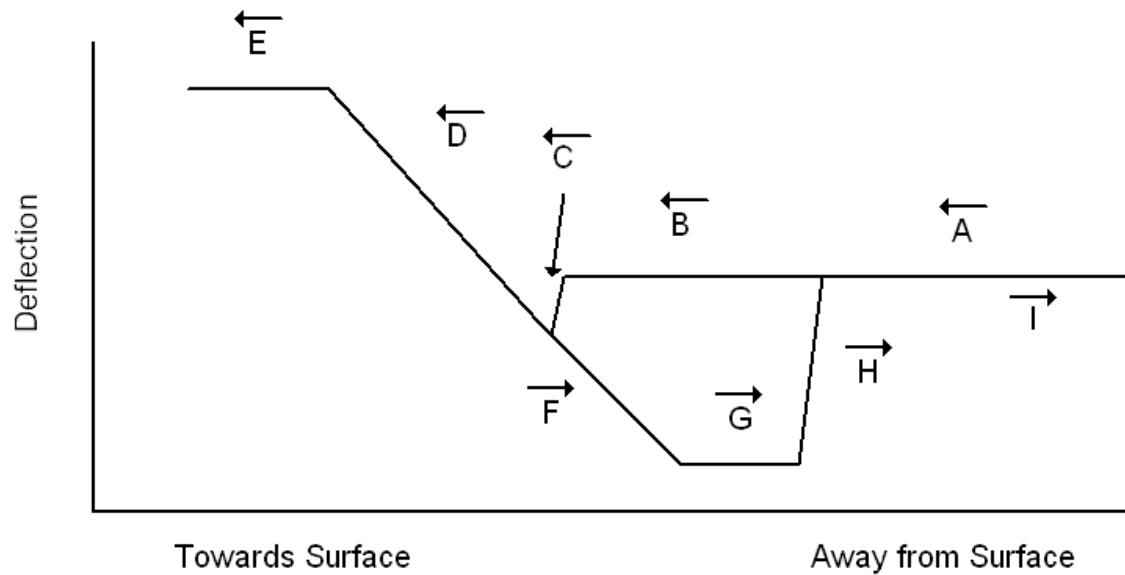

Figure 10.1 Regions of a Force Curve
Figure 10.1 region E). If you see this you need to either decrease the adhesion between the tip and surface, or increase the spring constant by picking a different lever. If you are working in air, then you probably have capillary adhesion between the tip and surface. But you will not have capillary condensation if you put the tip-surface system in water, as that greatly decreases the adhesion.
- I The end of the force curve, where the tip returns to "zero force." This region may contain additional downward deflections and jumps back to zero, which are most likely polymer-stretching events. These occur when polymer chains attach to the tip after it has jumped away from the surface (See Figure 10.1 region H).